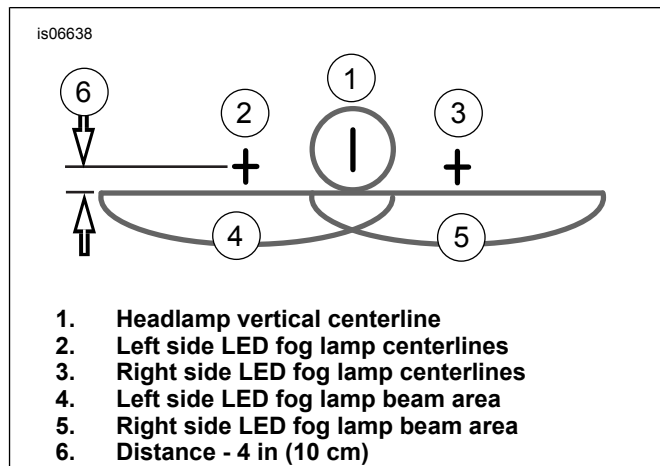

Figure 2. Properly Aim LED Fog Lamps
9. See Figure 2. Mark the LED fog lamp horizontal and vertical centerlines (2 and 3) on the wall.